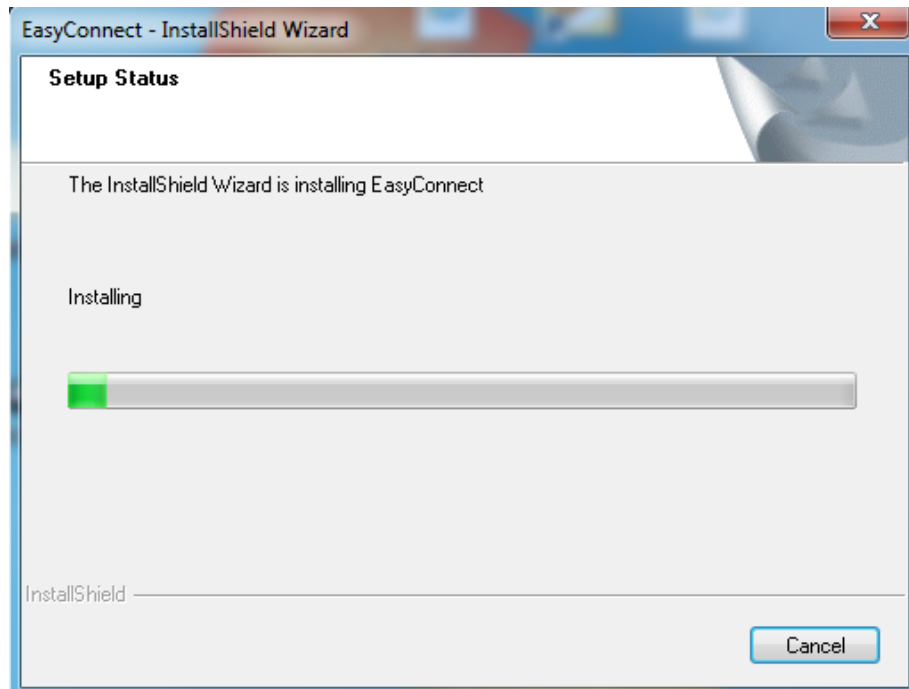

Figure E-9: Setup Status
7. The 'Setup Status' window shows the progress of the installation as shown in Figure E-9.